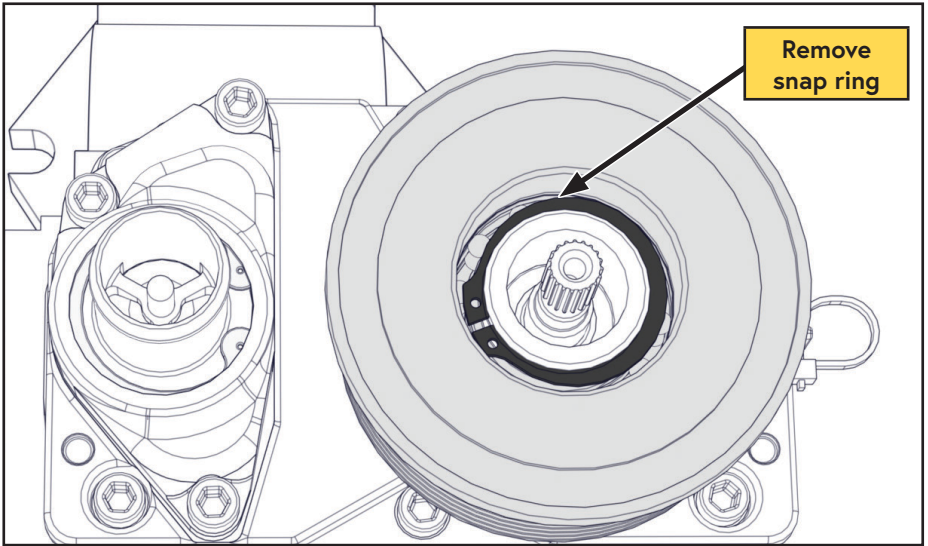

Figure 5 — Remove upper snap ring
- ☐ Remove the upper snap ring on the inside of the rotor assembly (Figure 5).